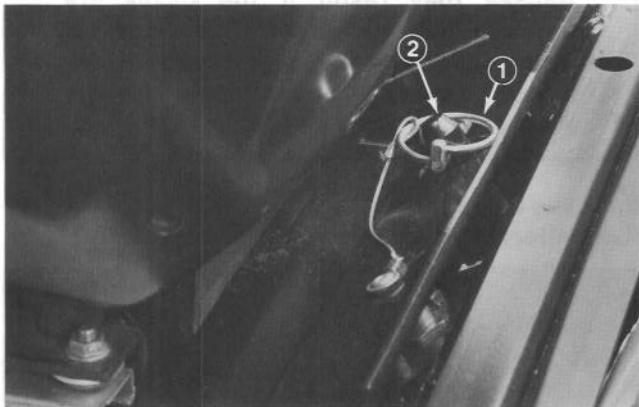
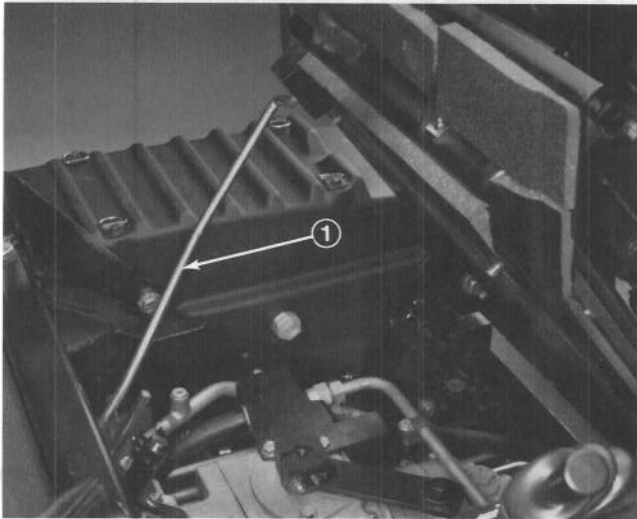

Figure 5
Figure 8
- 2. Remove lynch pin from seat latch pin (Fig. 5).
1. Remove lynch pin from seat latch pin (Fig. 5) and pivot seat support forward. Hold up seat with prop rod (Fig. 8).